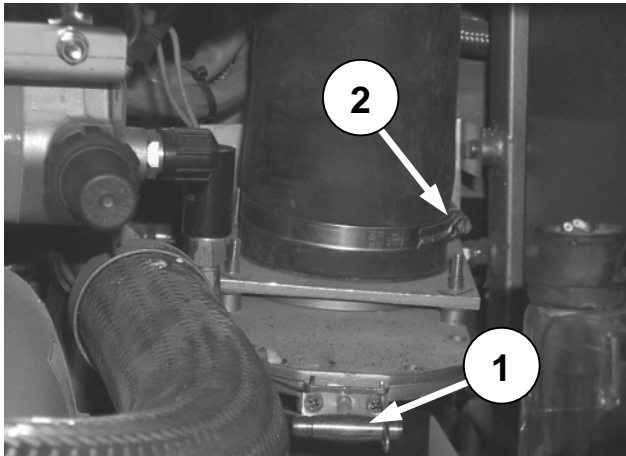

Figure 5: Waste tank slide valve (1) and lower hose clamp (2)
- 4) To gain access to the compressor discharge line, drain the toilet by opening the slide valve (see 1, Figure 5). Slacken the upper and lower hose clamps (2 and 3, Figures 5 and 6) and remove the hose connecting the toilet to the waste tank.